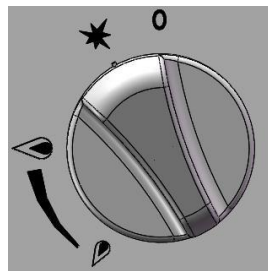

Fig. 3
- ②And then axial press the front air valve knob, left 30 degrees, to the fire position★ (Fig.3).
- ③At the fire position, completely press the knob, and press the button of the piezo igniter with another hand simultaneously. Keep pressing the knob about 10-15 seconds, and observe stability of fire.
- ④If the fire is not lit, please repeat the above steps until the fire is ignited.
- ①When the control knob is rotated to the fire position ★(Fig.3), the main fire burner flame is extinguished, but the pilot light will continue to work.
- ②Axial press the knob to rotate knob clockwise continually, so that the direction of the knob on the "0" position, at this time, the fire extinguished, the valve closed.